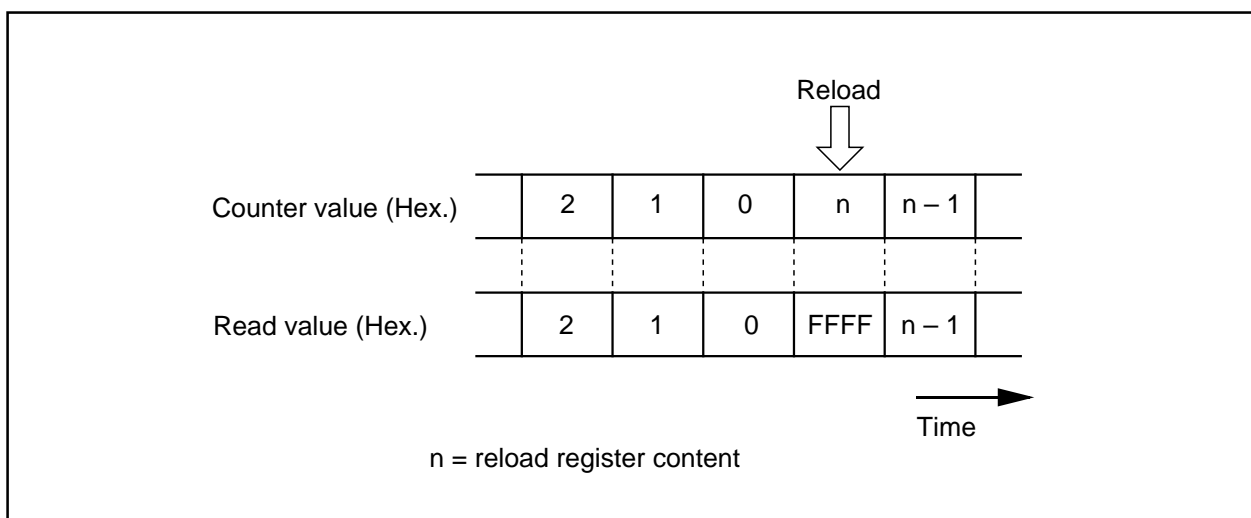

Figure 2.2.28. Reading timer Ai register
- (1) To clear reset, the count start flag is set to "0". Set a value in the timer Ai register, then set the flag to "1".
- (2) Reading the timer Ai register while a count is in progress allows reading, with arbitrary timing, the value of the counter. Reading the timer Ai register with the reload timing shown in Figure 2.2.28 gets "FFFF₁₆". Reading the timer Ai register after setting a value in the timer Ai register with a count halted but before the counter starts counting gets a proper value.